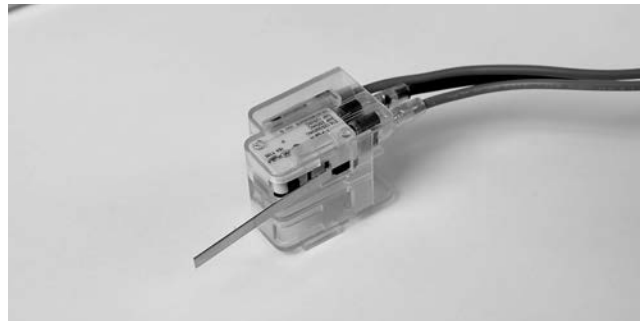

FIGURE 5-114
3. Install one or two of the electrical (snap-action) switches into the switch cover for the upper tab of the switch mounting bracket. See Figure 5-114.